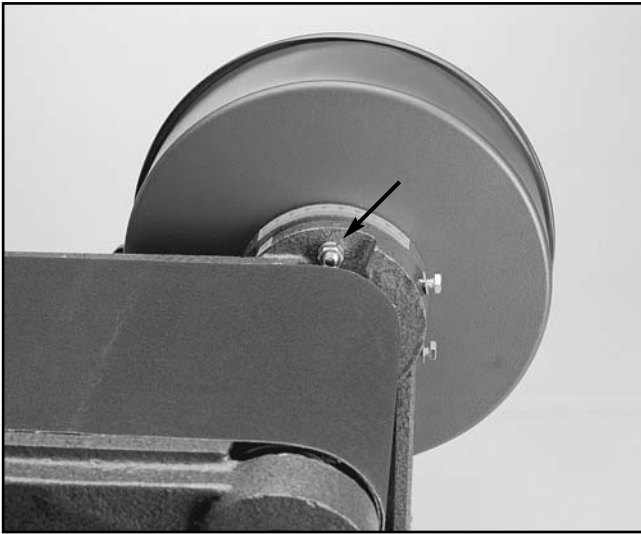

Figure 16.
1. Loosen the two nuts shown in **Figure 16** (one nut is obscured by the belt arm in this photo but it is directly below the visible one). With these nuts loose, the belt frame can be raised to its vertical position. Tighten the nuts down.